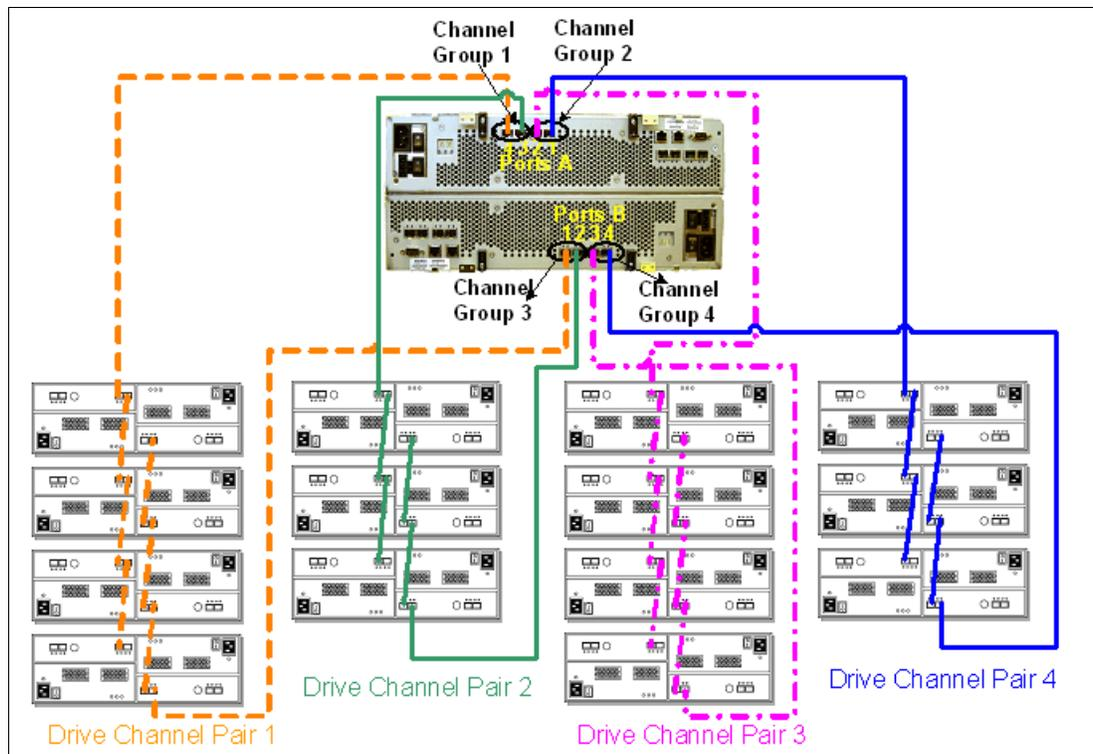

Figure 3-53 Fully optimized DS4800 with 14 EXP810s attached
When using the EXP810 enclosures, the DS4800 can only attach 14 enclosures. Figure 3-53 shows a fully configured DS4800 with 14 EXP810s attached.
- ▶ Also, as previously stated, spread expansion enclosures among the four drive channel pairs. Using only the EXP810 enclosures, a maximum of 14 enclosures can be connected to a DS4800, as shown in Figure 3-53 on page 67.